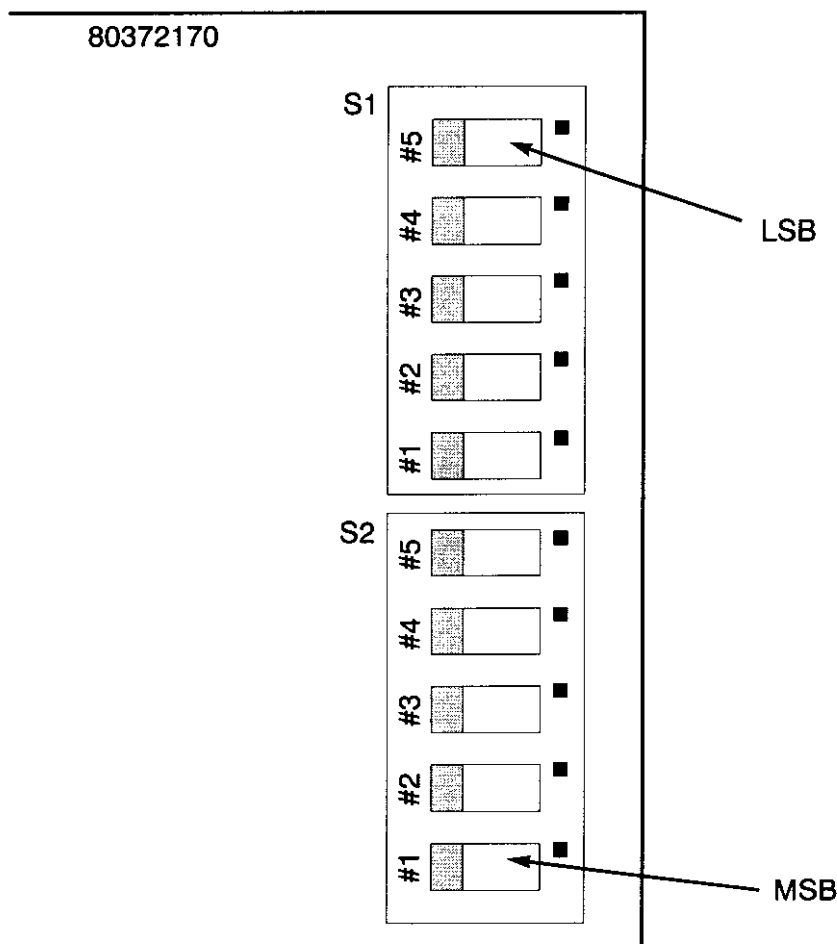

Figure 46. Cathode Current Setting Using UGR Switch Settings
2. The UGR slide switches are treated as a single setting. See Figure 46 for switch values. If the measured value is larger than the specified TWT data sheet value, decrease the value of the setting. If the measured value is smaller than the specified TWT data sheet value, increase the value of the setting.